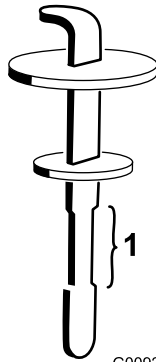

Figure 128
5. Remove the dipstick from the filler neck and wipe it with a clean rag. Insert the dipstick into the filler neck, then remove it and check the fluid level (Figure 128).